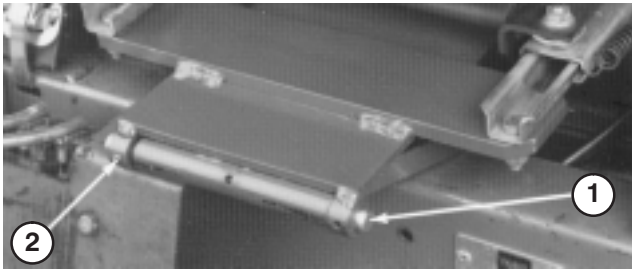

Figure 9
- Mount seat and seat support to seat pivot bracket with pivot shaft and roll pin (Fig. 9).